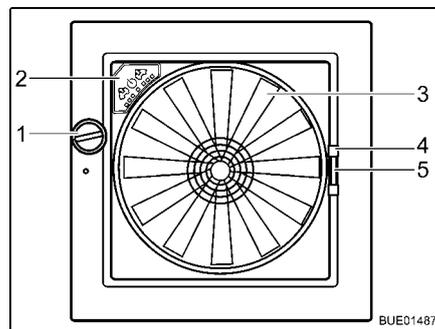

Fig. 115 Omni-Vent skylight
- Opening:** ■ Turn the knob (Fig. 115,1) until the desired opening angle is reached.
- Closing:** ■ Turn the knob (Fig. 115,1) until the skylight is fully closed.
- Closing:** ■ Using the handle (Fig. 115,4) pull the insect screen across to the other side of the frame.
- Press together the handle (Fig. 115,5) of the shade.
- Fan** If the skylight is open, the interior can be vented and aerated with the 6-speed fan (Fig. 115,3). The fan is operated via the operating panel (Fig. 115,2).